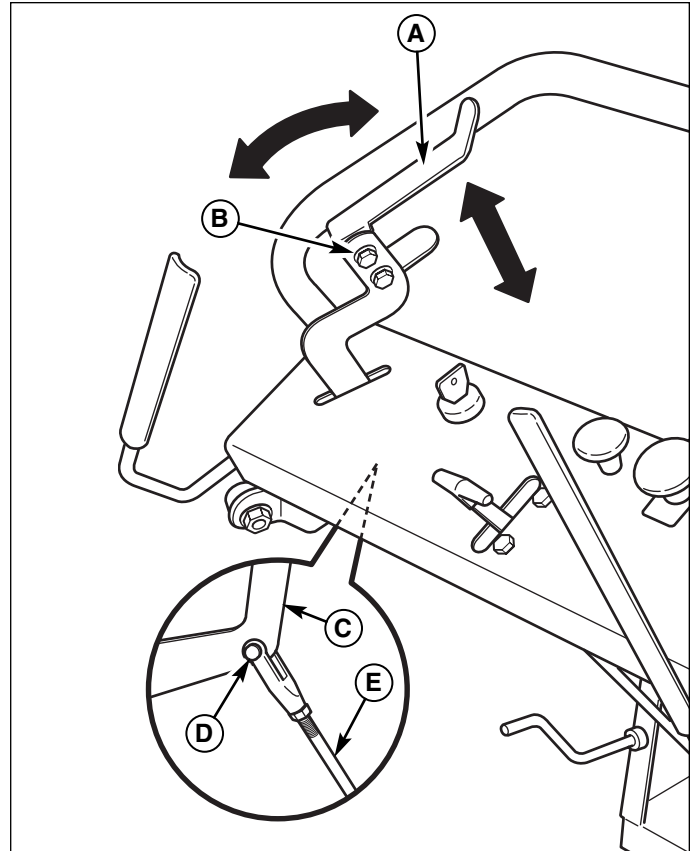

Figure 20. Ground Speed Control Lever Adjustment
1. Loosen the lever fastener (B, Figure 20) to adjust the lever height. Make sure the levers are parallel with the handle bars in both forward and reverse without contacting the handle bars.